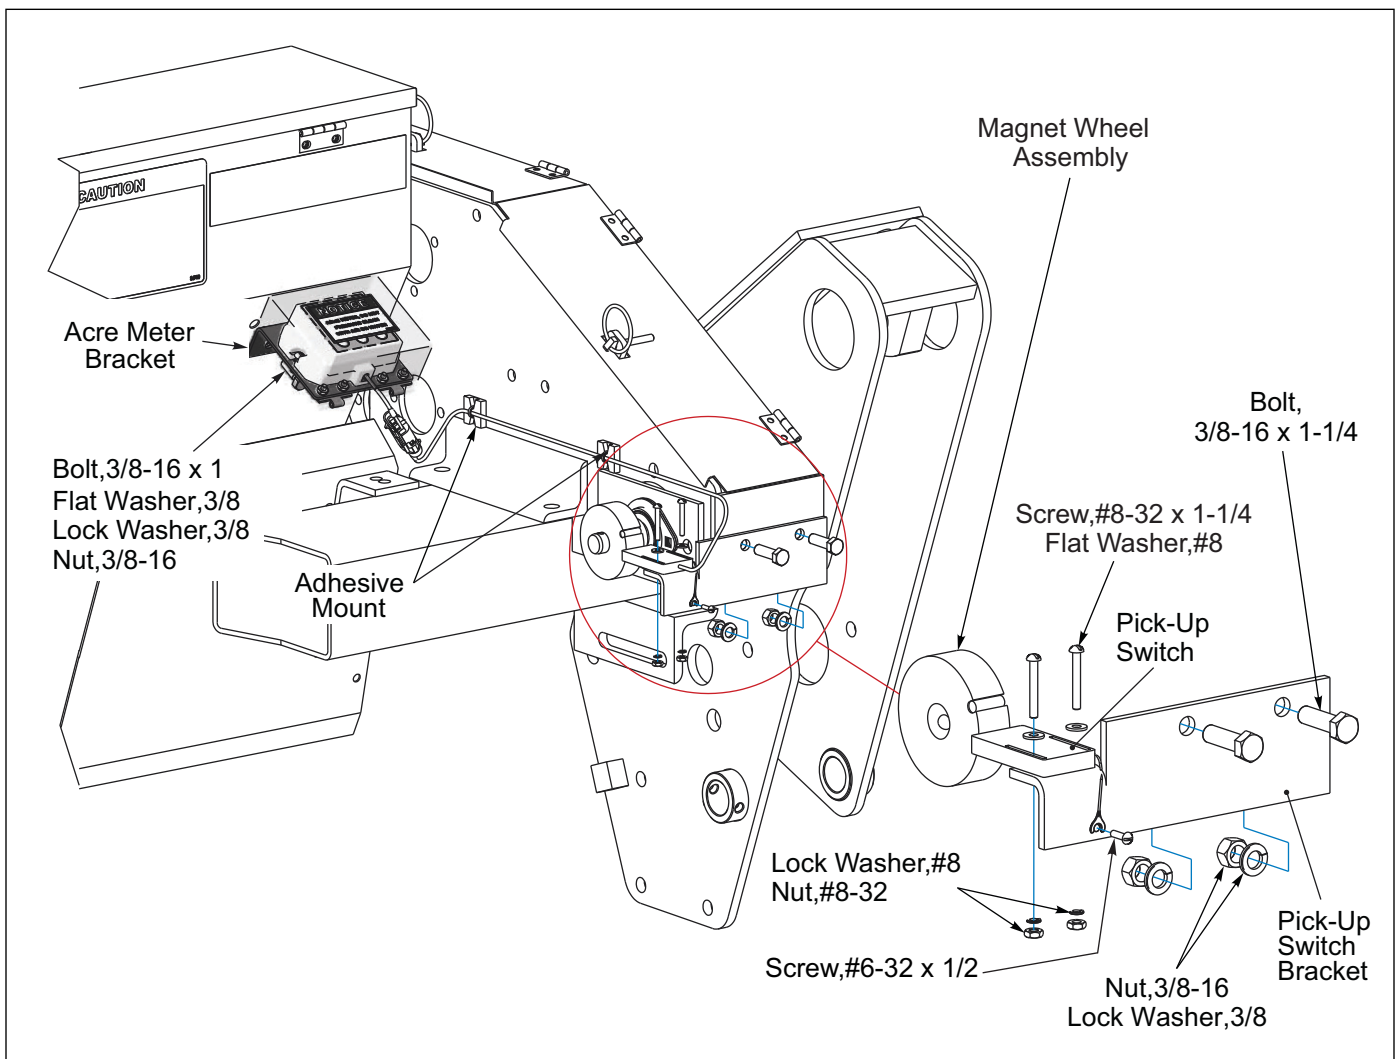

Figure 2-18: Electronic Acre Meter
2. Attach the Acre Meter Bracket to the Seed Box with 3/8-16 x 1 Bolts, Lock Washers and Nuts. See **Figure 2-18.**